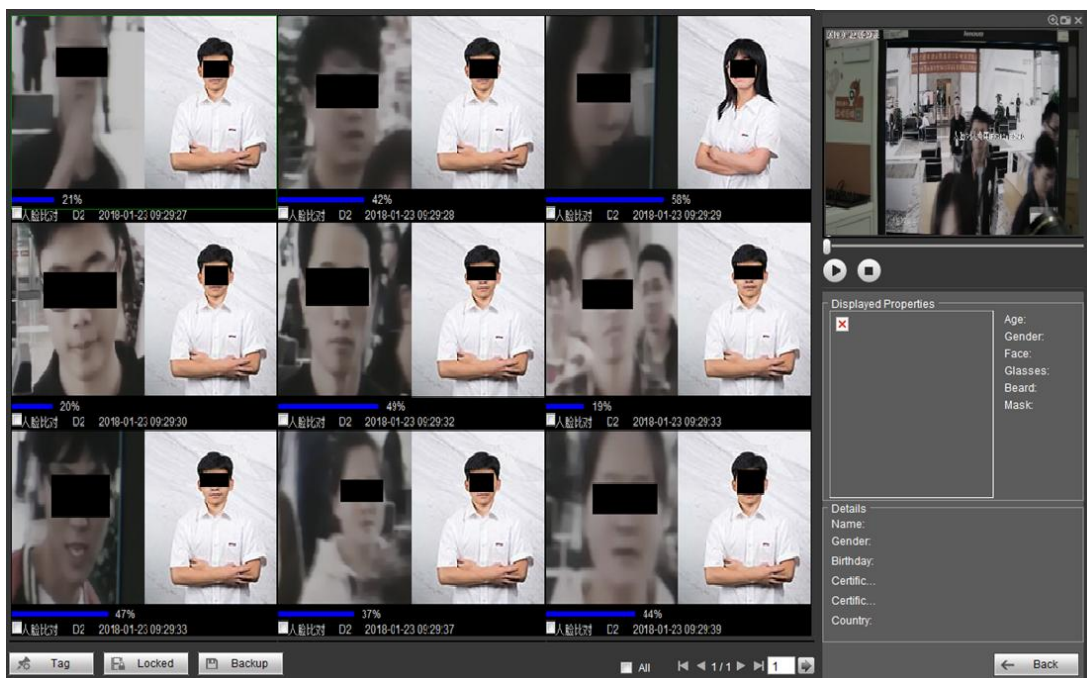

Figure 5-185
- The images meeting the conditions are displayed. See Figure 5-185.